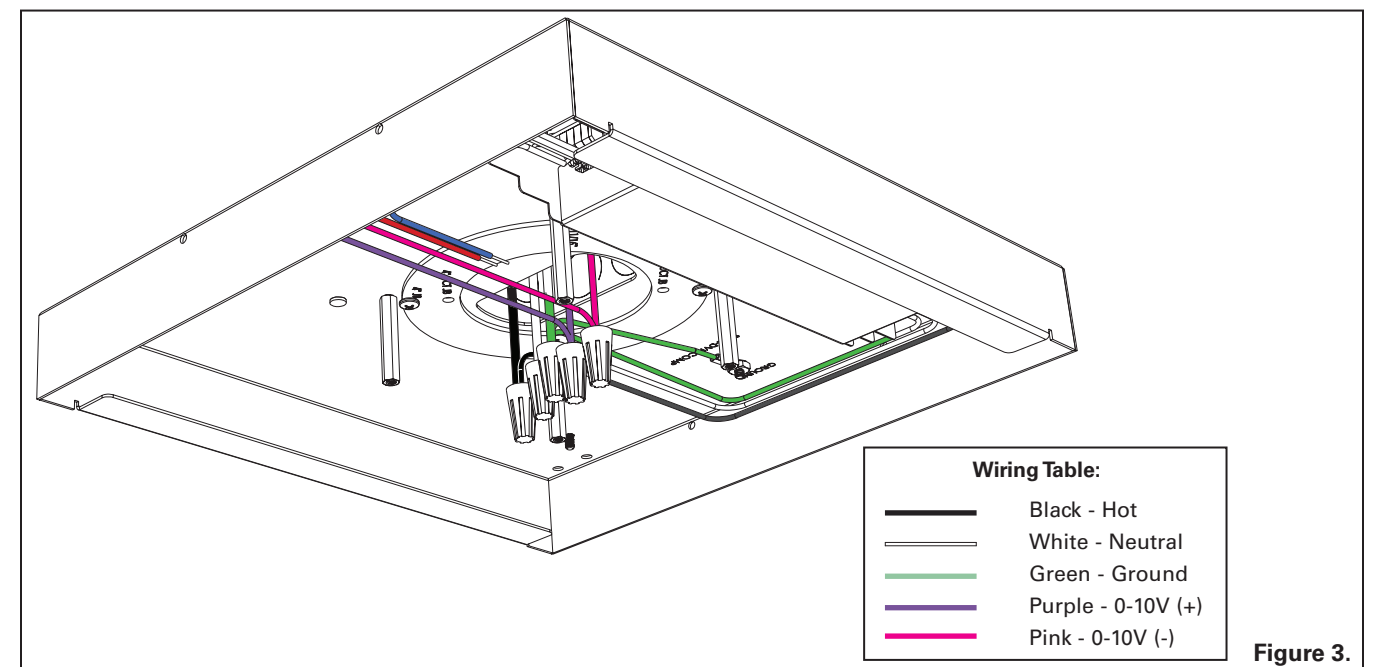

Figure 3.
Step 3. Connect feeder wires from contractor supplied junction box to power wires of fixture using supplied wire nuts. Tuck all wires inside junction except blue and red low voltage wires (used for controls, and reference wiring diagram). Ref. Figure 3.